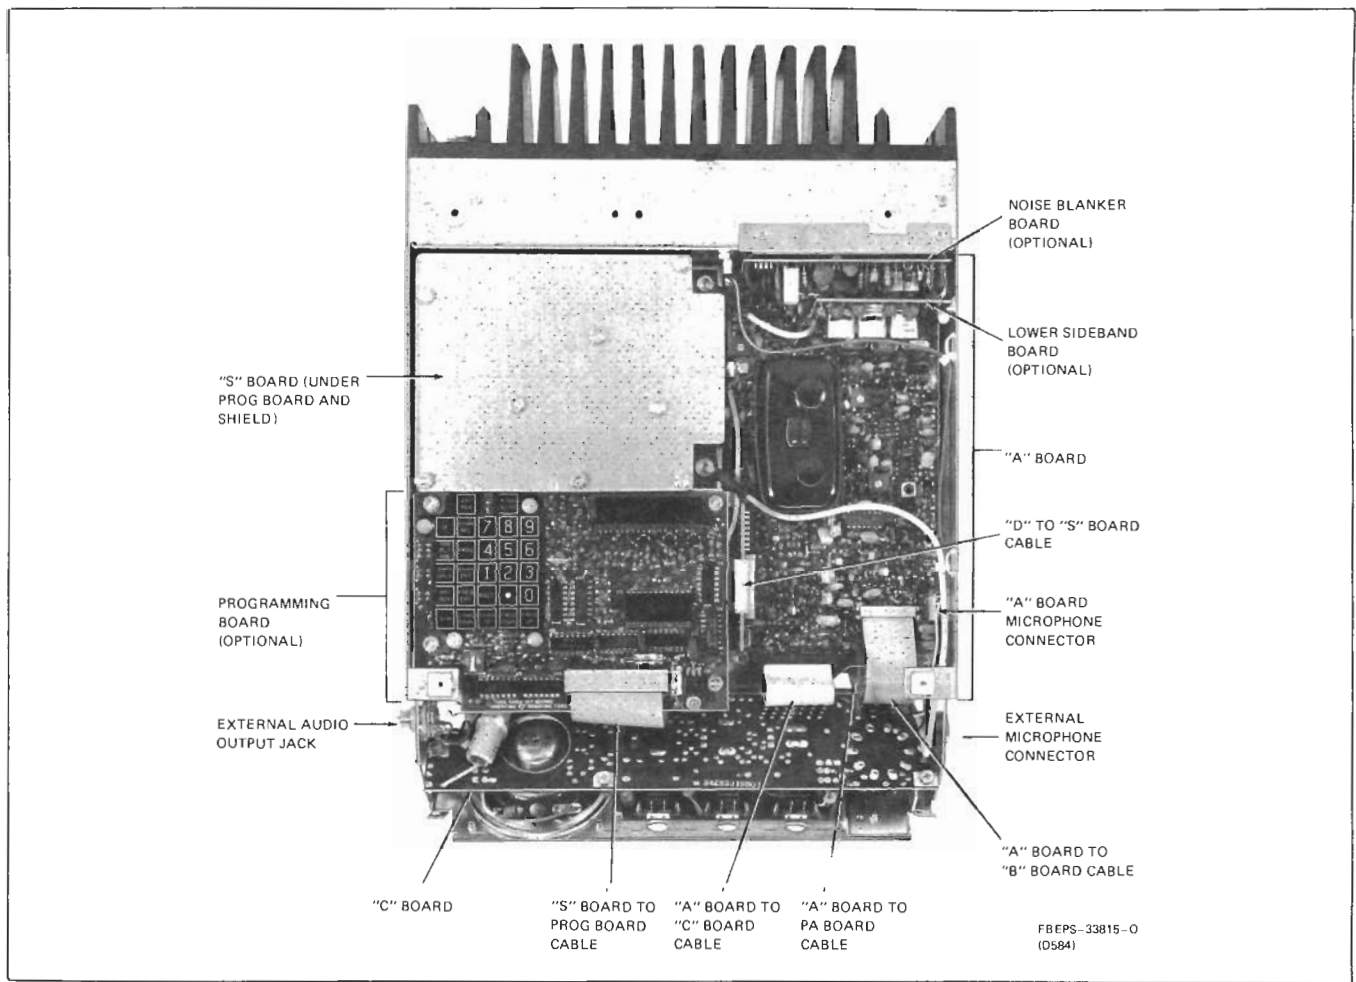

Figure 2. Major Assemblies as Seen From Bottom of Radio
Step 5. If using the TPN1177 AC Power Supply, remove the end terminal lugs of each wire (RED, GREEN, BLACK) and replace with the appropriate terminals provided with the TPN1177 Power Supply. The RED and GREEN terminals are then connected to the “+” side of terminal strip TB2 of the power supply (see Figure 2 of Power Supply Manual 68P8111E32). Connect BLACK wire terminal to “-” side of TB2 terminal strip.